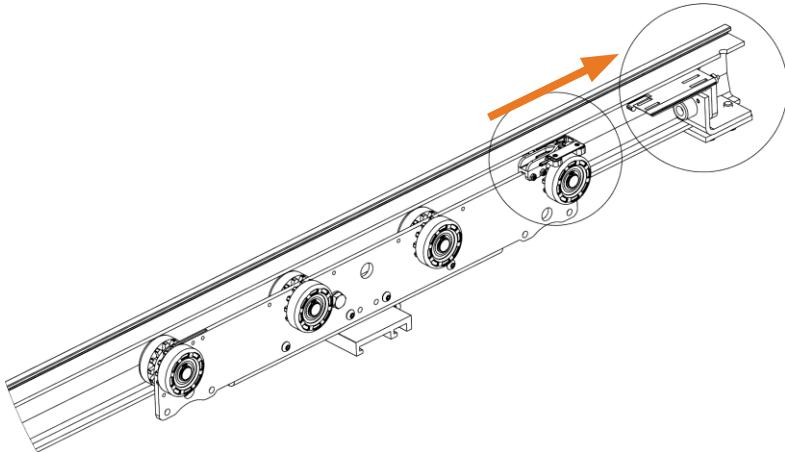

Figure 22: **Charging Contacts Facing the Charging End of the Track**
- b. For endstop charging, make sure the charging contacts face the charging end of the track (Figure 22).